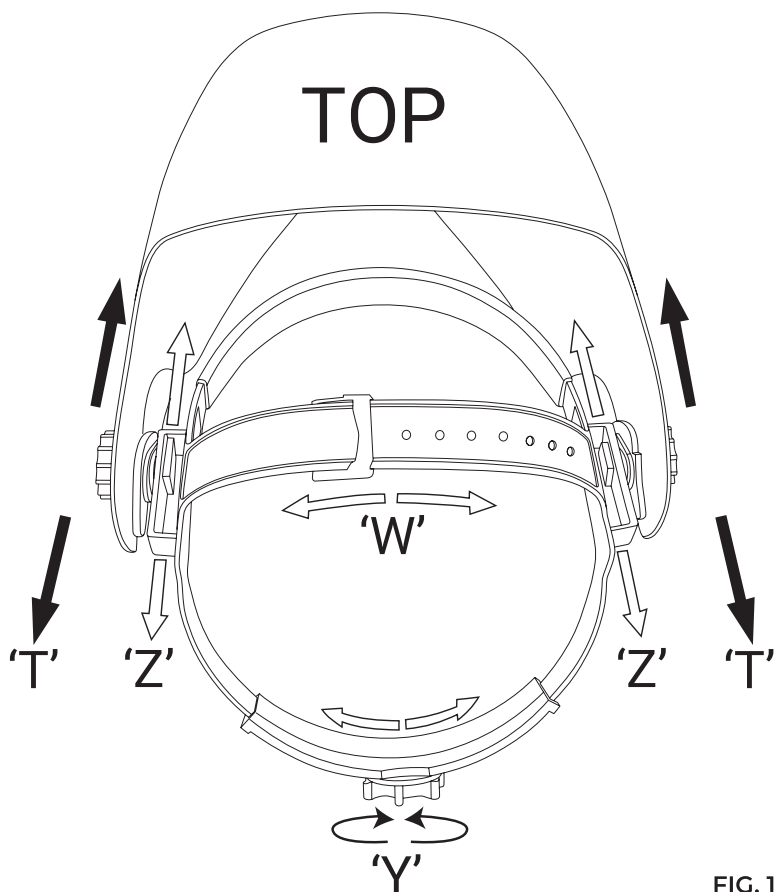

FIG. 1
- Adjusting the Headband Circumference: Turn the knob ('Y' FIG. 1) at the back of the headband to increase or decrease the circumference. This adjustment can be made while wearing the helmet to achieve the proper tension.
- Adjusting the Headband Height: Adjust the strap that goes over your head ('W' FIG. 1) by pressing the locking pin out of the hole, sliding the strap, and then pressing the locking pin into the nearest hole.
- Adjusting the Distance Between the Helmet and Your Face: Loosen the block nuts ('T' FIG. 1) on both sides to adjust the distance between the helmet and your face. Ensure that your eyes are equidistant from the lens to guarantee even shading. Tighten the block nuts again once the adjustment is complete.